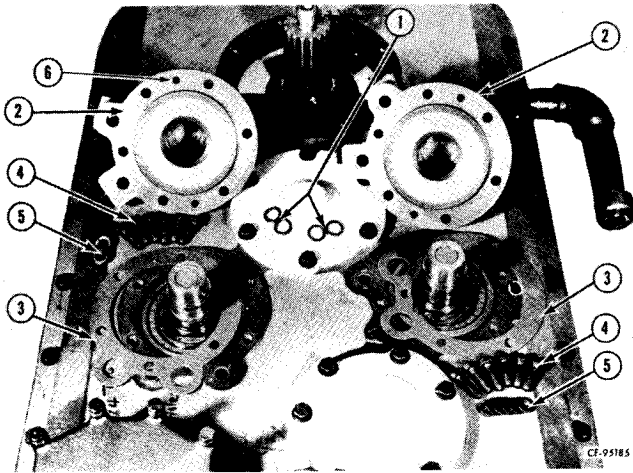

Figure 4-20
Remove oil supply covers (2, Fig. 4-20) by removing cap screws (4), washers (5) and threading two of the cap screws in jack screw holes provided (6) to force covers from housing. Discard gaskets (3) and "O"-rings (1).